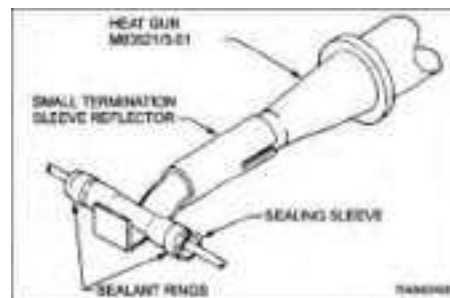

Figure 204
- b. Wire insulation does not extend into the wire crimp barrel (see Item A of Figure 204).
21. Shrink sealing sleeve using hot air gun with small termination reflector. Shrink middle first and move heat towards one end until sealant melts and begins to flow out of sleeve, then move towards the other end, as shown in Figure 204.